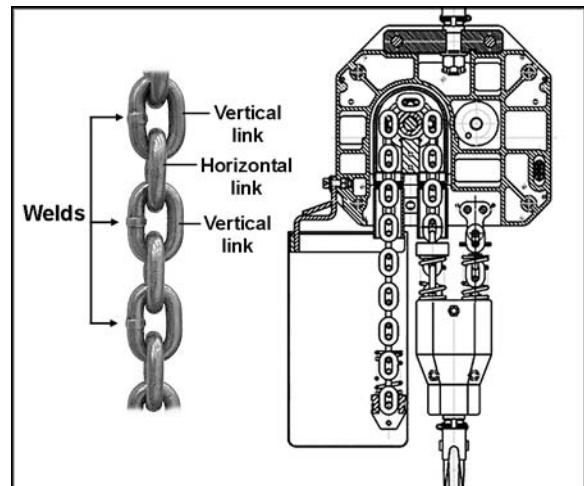

Figure 17
4. Using a C-link, connect the new chain to the old chain. Be sure vertical link welds face away from load sprocket (see Figure 17).
Vertical and horizontal are determined by the relationship with the load sprocket. Vertical links will be guided by the center slit in the load sprocket. Horizontal links will engage in the oval pockets on the sprocket. See Figure 17.